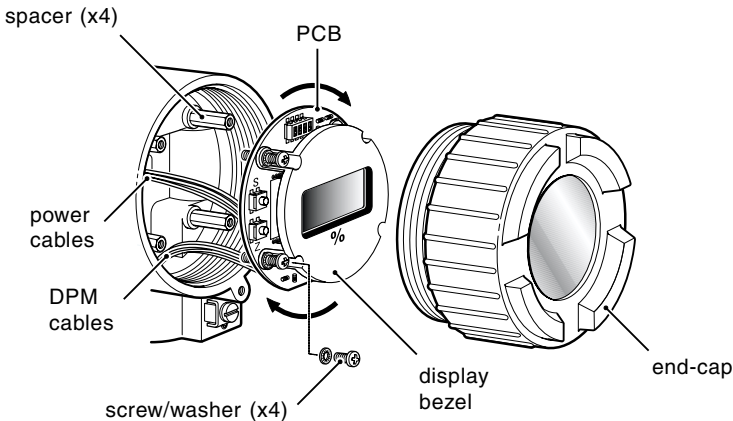

Figure 3-1 Display - Turn thru 90°
3.4 To Rotate the Display Thru 90° (Figure 3-1)